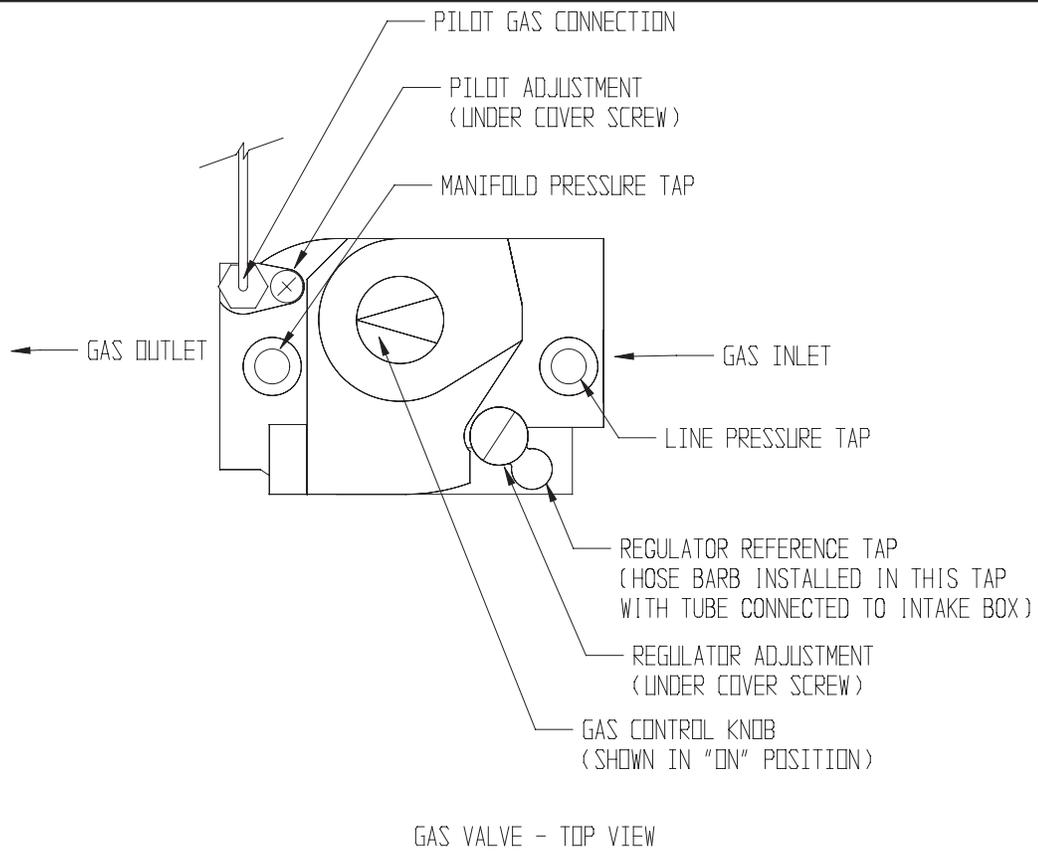

FIGURE 10.3: GAS VALVE
- a) Connect a manometer to the line pressure tap on the gas valve (see Figure 10.3).
- d) Connect a manometer to the manifold (outlet) pressure tap on the gas valve (Figure 10.3).
- e) If a manifold pressure adjustment is needed, make the adjustment by turning the regulator screw (see Figure 10.3) clockwise to raise the pressure and counter-clockwise to reduce the pressure. If a manifold pressure adjustment is made, recheck the line pressure to be certain that it is still within acceptable limits. Replace the cover screw on the regulator.